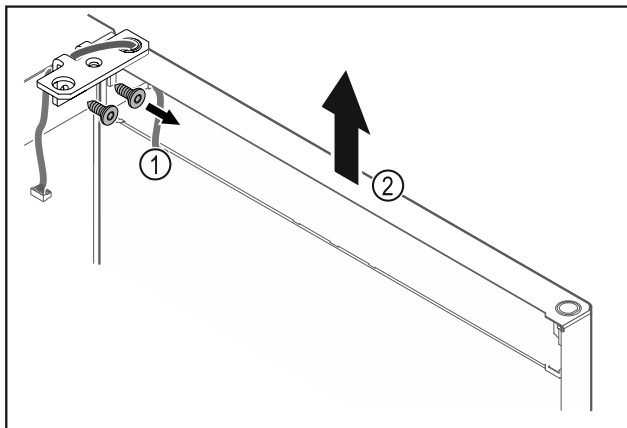

Fig. 19
- Unscrew the hinge Fig. 19 (1).
- Lift the door with the hinge straight up by Fig. 19 (2) roughly 200 mm and take it off.